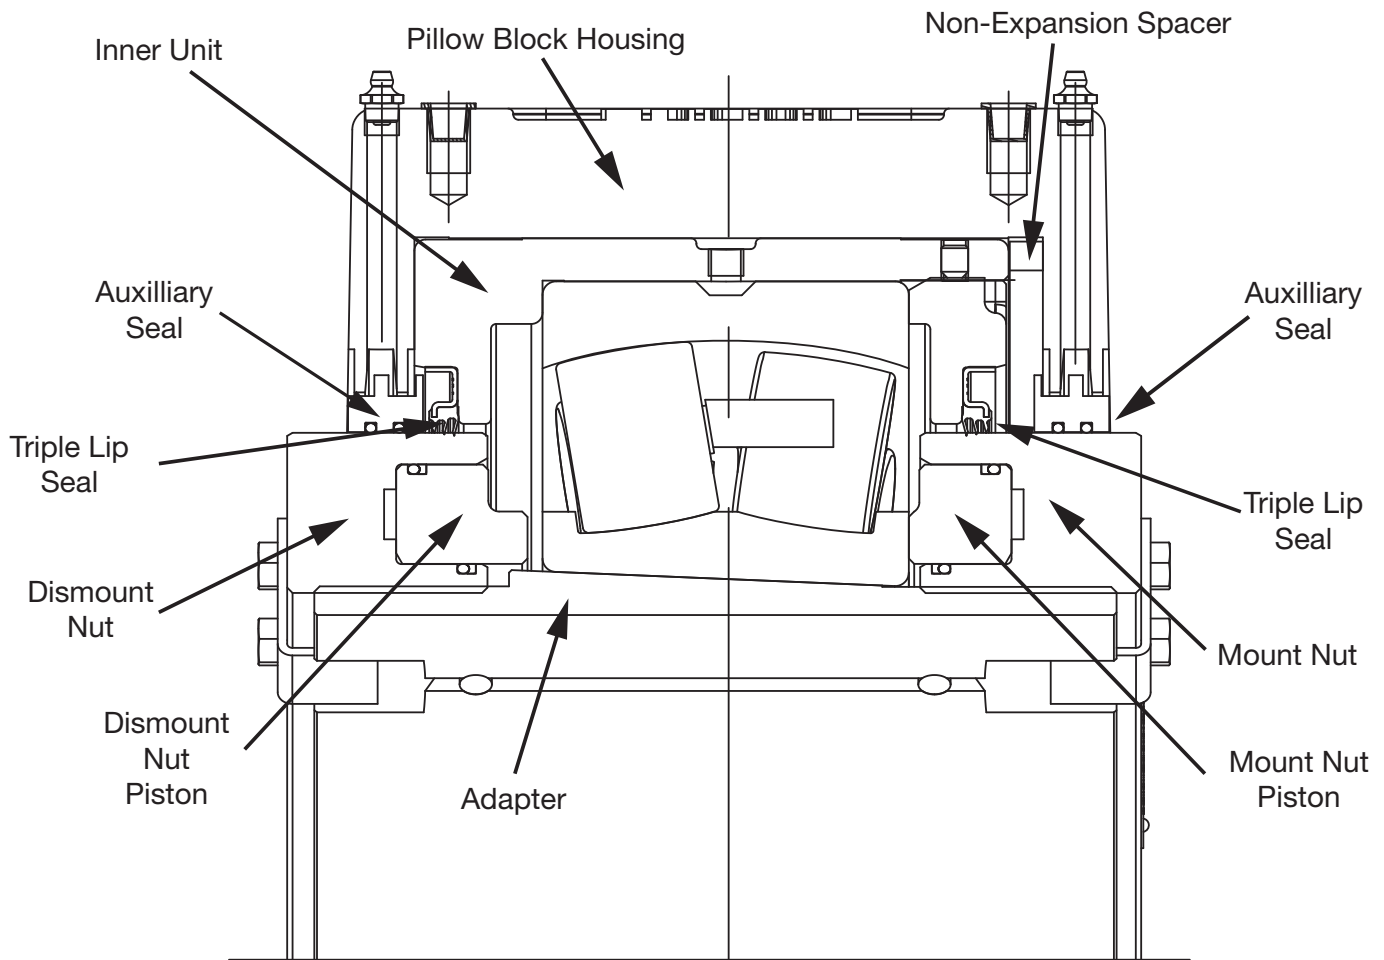

Figure 3 - Cross Section
4. Rotate Dismount Nut counter clockwise two full rotations. The Dismount Nut must remain loose during the mounting procedure but should never be removed. Without loosening the dismount nut, the dismount unit piston will make contact with the bearing unit as it travels up the adapter. (See Figure 3) This will not allow the bearing to move up the adapter and tighten properly.
4. Incorporating a spanner or drift and hammer, rotate the Mount Nut counter clockwise two full rotations. The Mount Nut must remain loose during the dismantling procedure, but should never be removed. Without loosening the mount nut, the mount nut piston will make contact with the bearing unit as it travels down the adapter. (See Figure 3) This will not allow the bearing to move down the adapter and loosen from the shaft properly.